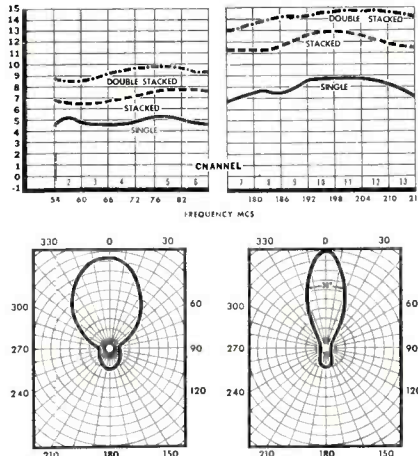

Fig. 5 (top)—Gain figures, new antenna in single, 2-bay, and 4-bay versions. (Bottom)—Horizontal polar patterns for the wide-band antenna.
Realizing the importance of preassembly in television antennas, this antenna was designed so that it could be folded in manufacture and opened up for installation in a few seconds. Gain figures and typical horizontal polar patterns for this antenna in the single, two bay, and four bay versions are shown in Fig. 5. The high band efficiency of
- A. A demodulator probe, such as shown in Fig. 5, introduces no distortion into the pattern. The result of testing the output from a generator with reasonably good sine-wave modulation is shown in Fig. 6.